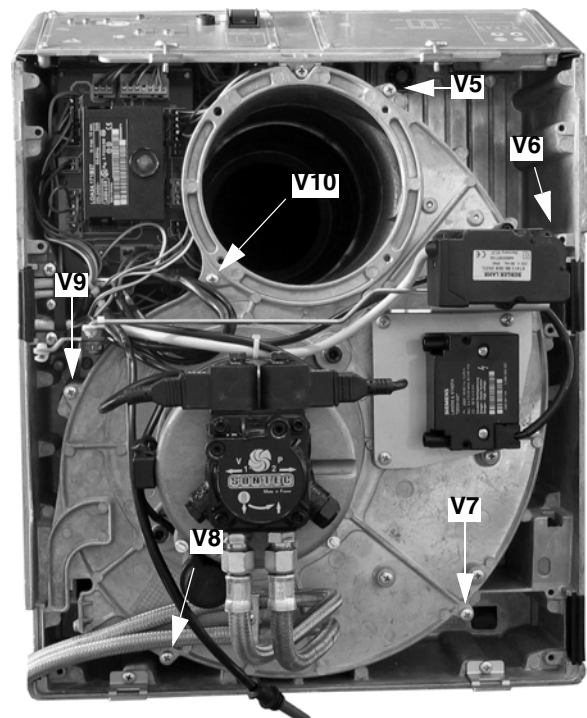

Fig. 26
- Remove the 6 screws V5 - V10 which fasten the component plate (Fig. 26).
- Reassemble burner components plate and tighten the 6 screws V5 - V10 (Fig. 26).